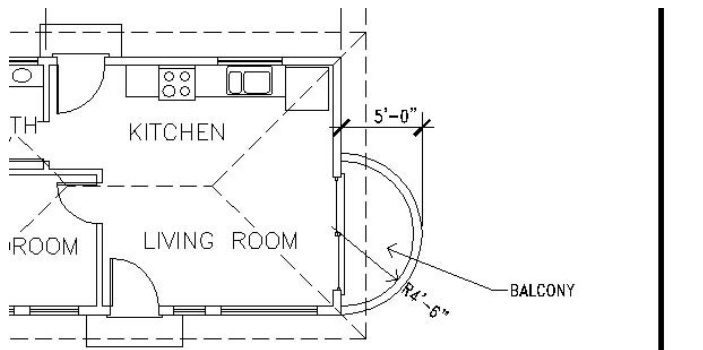

FIGURE 11.33: The 5'-0" dimension with the left extension line suppressed
6. Close the Properties palette. Press Esc to remove the grips (see Figure 11.33).